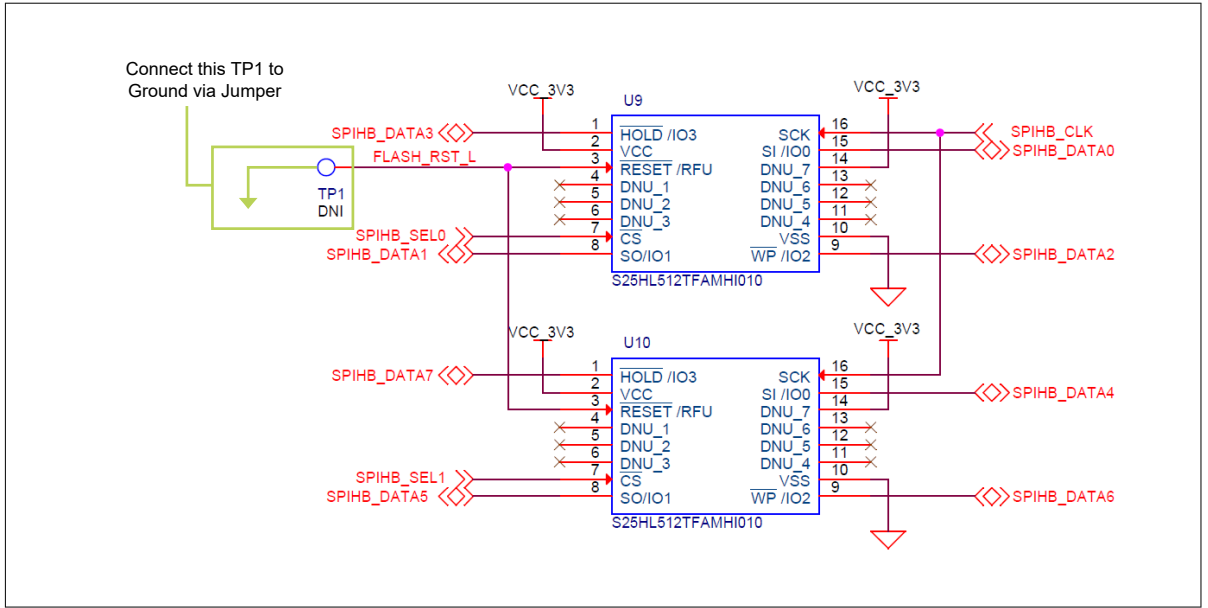

Figure 51 Reset the QSPI flash memories
- To reset the QSPI flash memories on the TRAVEO™ T2G B-H Lite kit by connecting a jumper between the GND pin and the TP1 which results in the reset of the QSPI flash memories (see Figure 51). You can also connect the test point to GPIO, to control the reset from the software.